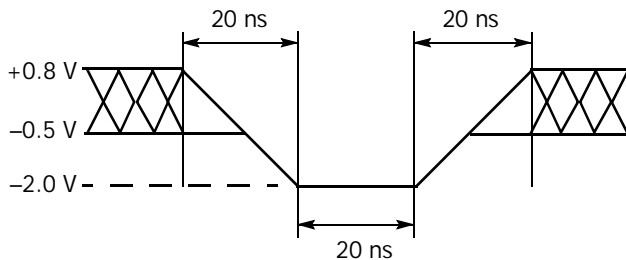
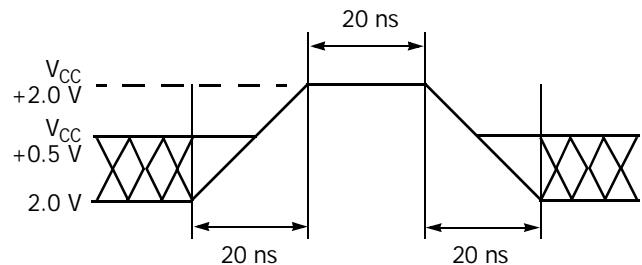

Figure 8. Maximum Negative Overshoot Waveform
Figure 9. Maximum Positive Overshoot Waveform
1. Minimum DC voltage on input or I/O pins is –0.5 V. During voltage transitions, input or I/O pins may overshoot V_{SS} to –2.0 V for periods of up to 20 ns. Maximum DC voltage on input or I/O pins is $V_{CC} + 0.5$ V. See Figure 8. During voltage transitions, input or I/O pins may overshoot to $V_{CC} + 2.0$ V for periods up to 20 ns. See Figure 9.
2. Minimum DC input voltage on pins A9, OE#, RESET#, and WP#/ACC is –0.5 V. During voltage transitions, A9, OE#, WP#/ACC, and RESET# may overshoot V_{SS} to –2.0 V for periods of up to 20 ns. See Figure 8. Maximum DC input voltage on pin A9 is +12.5 V which may overshoot to +14.0 V for periods up to 20 ns. Maximum DC input voltage on WP#/ACC is +9.5 V which may overshoot to +12.0 V for periods up to 20 ns.